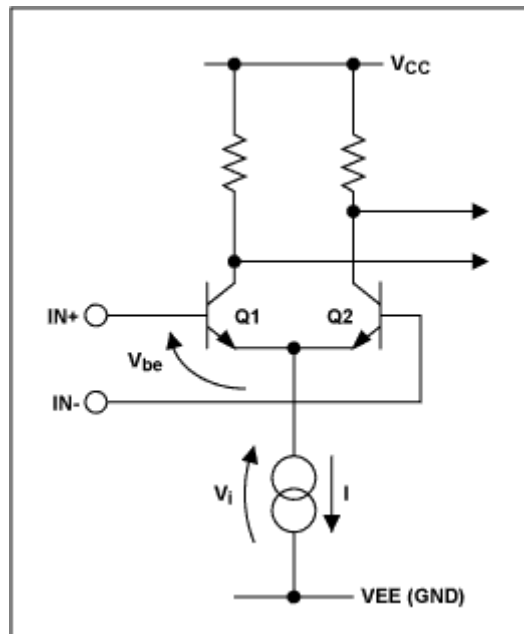
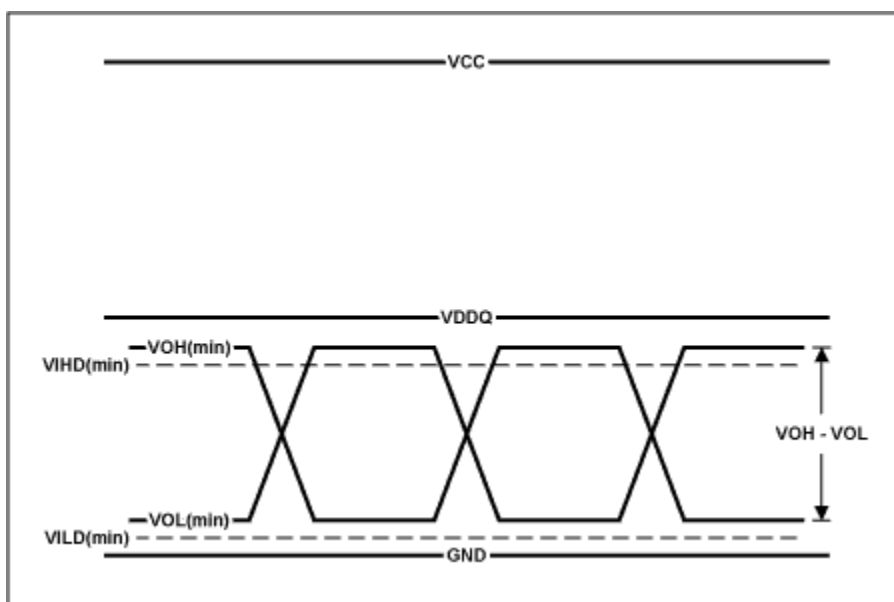
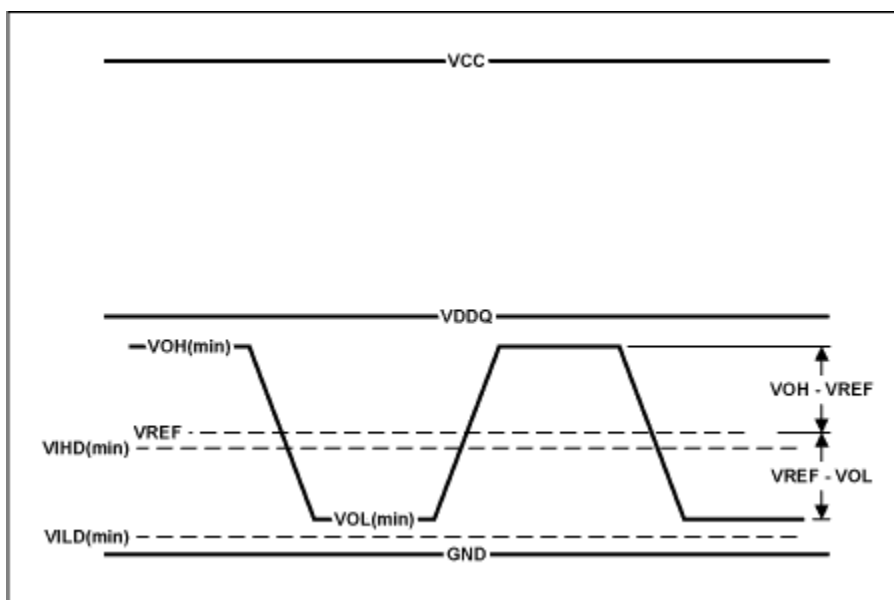

Figure 2. Simplified PECL input stage.
Figure 3. Conditions for compatibility between differential HSTL output and PECL input.
Figure 4. Conditions for compatibility between single ended HSTL output and PECL input.
Figure 2 illustrates a simplified PECL input stage comprising a differential pair (Q1, Q2) and a tail current source (I). The input transistors will switch depending on the relative voltages at the inputs IN+ and IN-. If IN+ is at a more positive voltage than IN-, Q1 will turn on and Q2 will turn off. The converse is true if IN- is more positive than IN+. A differential signal of only a few milli-volts is typically required to switch the input transistors although a larger voltage than this is required to guarantee the device output levels quoted in a datasheet. Most PECL datasheets specify a differential input voltage (V_{ID}) of at least 100mV to guarantee the specified output levels. Figure 4 shows example data sheet values for a PECL input stage with a V_{ID} range of 100mV to 3V.
Figure 3 illustrates these conditions for compatibility in the form of a signal trace.
Single-ended HSTL signals typically swing about a reference voltage of approximately 0.75V. An ideal single ended receiver would switch as the HSTL signal transitions through the 0.75V reference point. A differential input would be configured as an ideal receiver by connecting the single ended signal to one input, and applying a 0.75V reference to the other. The input stage shown in Figure 3 would be configured as a non-inverting single ended receiver by connecting the incoming signal to IN+ and applying the reference to IN-. In this situation the (differential) input stage sees a high level equal to VOH when the input is high and VREF when the input is low. For a PECL input stage to perform as an ideal single ended receiver the specified value for VIHD(min) would have to be less than or equal to the reference voltage VREF. This situation is illustrated in Figure 4. Limitations on the differential voltage and differential voltage low level specifications apply as with the differential signaling case except that the differential voltage is given by the relationship between the signal high and low levels and VREF.